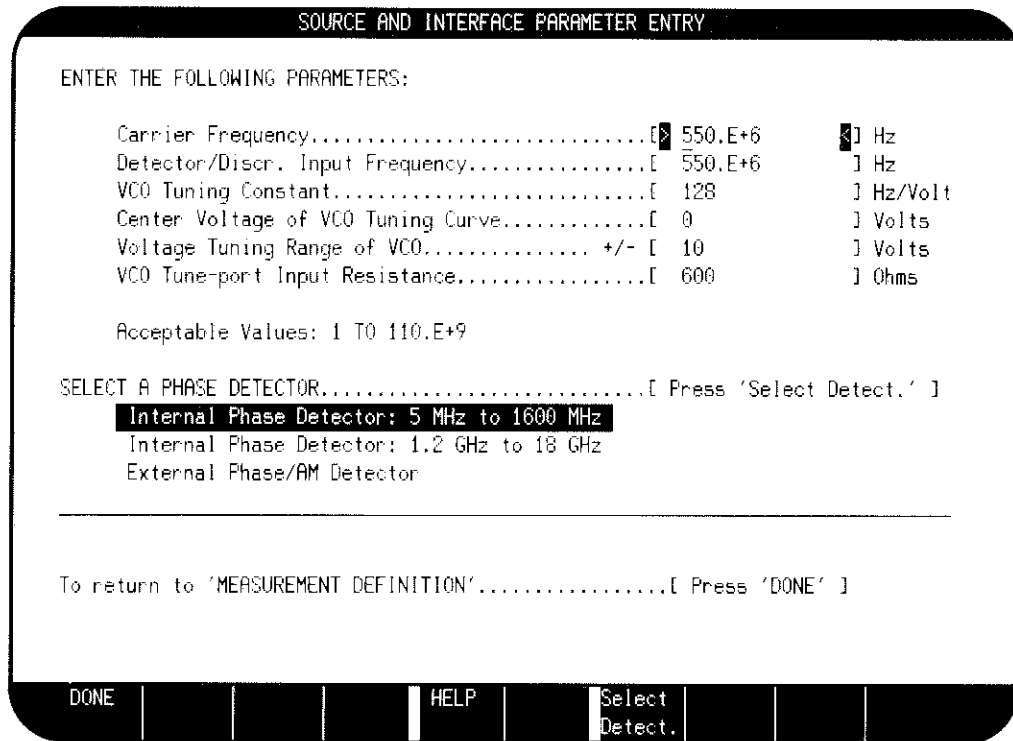

Figure 3-11. Source and Interface Parameter Entry Menu
- On the HP 3048A press the **Instr. Params** softkey to obtain the Source and Interface Parameter Entry menu. Set the parameters and phase detector as shown in figure 3-11. When done, press the **DONE** softkey.
17. Call up the Source and Interface Parameter Entry menu (shown in figure 3-11) and select the phase detector labeled "Internal Phase Detector: 1.2 GHz to 18 GHz".